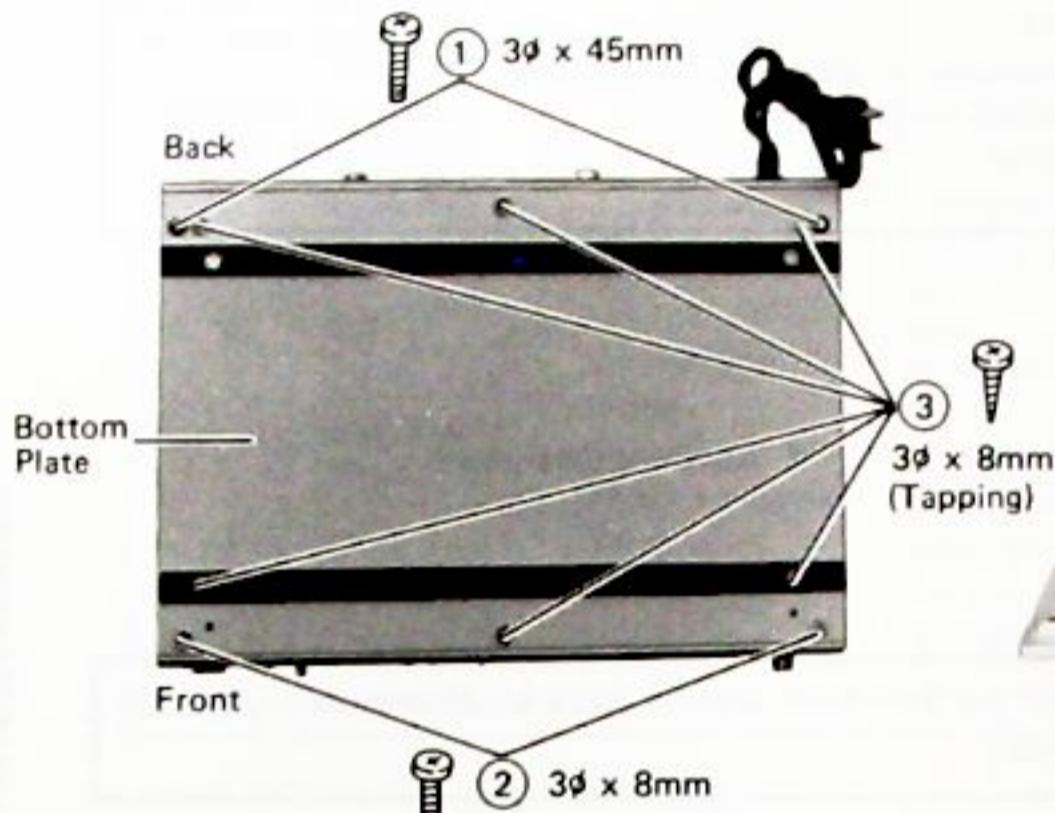

Figure 10.
1. Remove 2 Screws (1). See figure 10.
2. Remove 2 Screws (2). See figure 10.
1. Remove teh Panel. See figure 10 and 11.
2. Remove the 6 Screws (3). See figure 10.